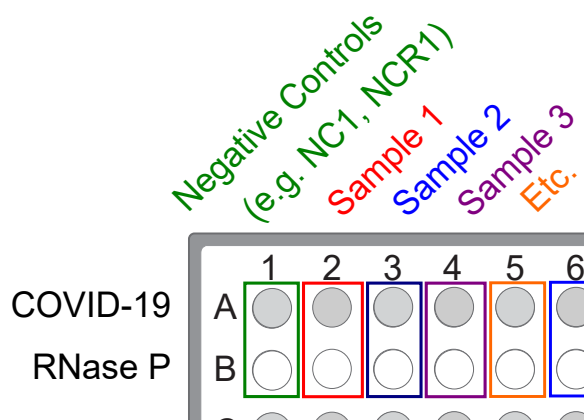

Figure 4 Paired sample and Negative Control wells for each assay
- Unseal the extraction plate, then add the first Negative Control from the single well of the extraction plate to wells A1 and B1 of the reaction plate, as shown in Figure 4 on page 54.